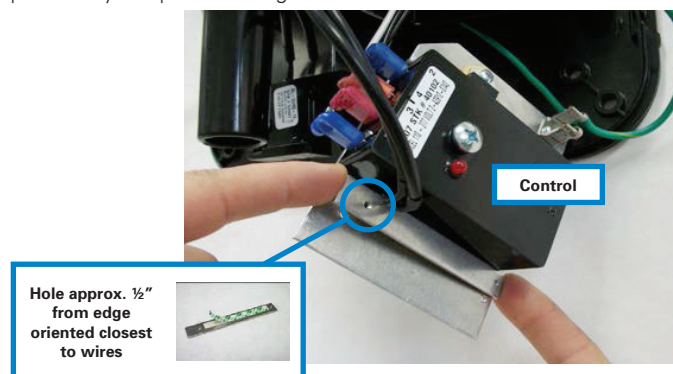

Figure 2-11
Step 2-8. Locate the Control Adapter Plate (C) and peel the tape backing off. Place it over the **slotted and elongated holes** on the bracket so that the hole that is ½" from the edge of the Control Adapter Plate is placed closest to the wire connections (**Figure 2-11**). Press the Adapter plate firmly into place flush against the Control.